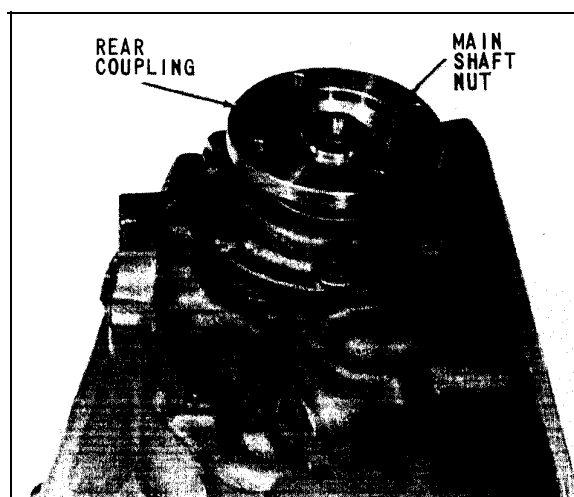

Fig. 33 View of Completely Assembled Output Shaft
26. Remove main shaft nut shown in (Fig. 33).
17. Assemble main shaft nut in place on output shaft and tighten to prescribed torque of 100 to 200 pounds-feet. This should bring inner race of bearing solidly in contact with the shoulder on output shaft and eliminate any detectable end play in the coupling and output shaft combination, (Fig. 33).